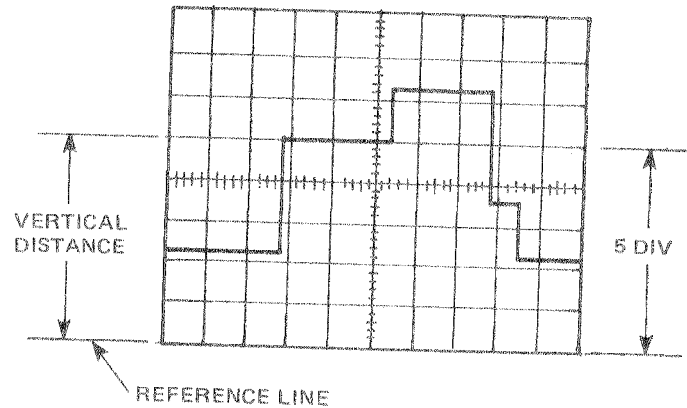

Figure 2-10. Instantaneous Voltage Measurement
2. Adjust the TIME/DIV switch (17) for one complete cycle of waveform and set the VOLTS/DIV switch (10) for a trace amplitude of 4 to 6 divisions (see Figure 2-10).
3. Flip the AC/GND/DC switch (12) to GND.
4. Use the appropriate Vertical Position control (13) or (14) to set the base line on the central horizontal graticule line. However, if you know the signal voltage is wholly positive, use the bottom most graticule line. If you know the signal voltage is wholly negative, use the upper most graticule line.
- This line additional calibration marks equal to 0.2 major division each. The voltage relative to ground at any point selected is equal to the number of divisions from that point to the ground-reference line multiplied by the VOLTS/DIV setting. In the example used for Figure 2-10, the voltage for a 0.5V/div scale is 2.5V ($5.0 \times .5V$).